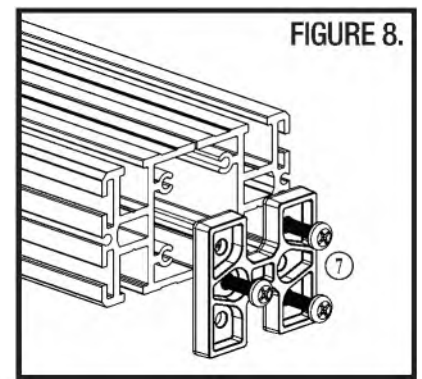
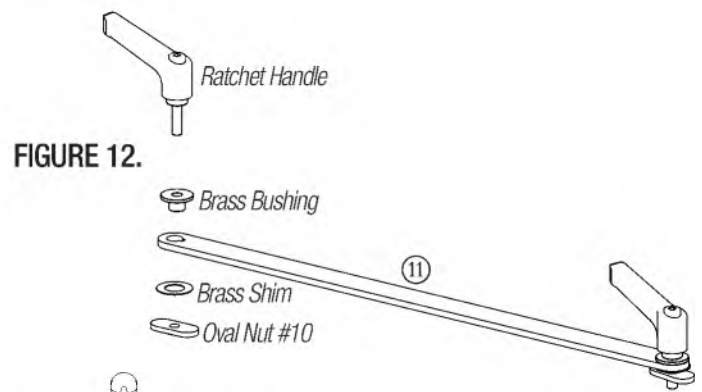

FIGURE 8.
FIGURE 12.
- Screws 1/4"-20 (6)
- Oval Nuts 1/4"-20 (6)
1. Remove the Push Plate ⑦ from the end of the Saw Blade Side Track. **FIGURE 8.**
9. Assemble the Long Span Clamp ⑪. **FIGURE 12.**
11. Slide the additional Clamping Handle ⑤ Clamping Stud into the Saw Blade Side Track from the end.
13. Install the Push Plate ⑦ in the end of the Saw Blade Side Track. **FIGURE 8.**